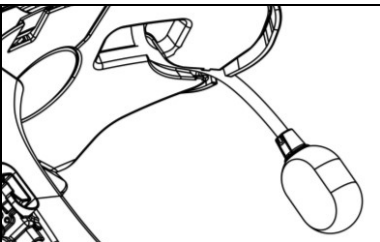

Fig. 9
- Position the microphone in the housing on the right of the helmet, inserting the boom pole of the microphone in the groove found in the chin guard coupling frame (Fig. 9).